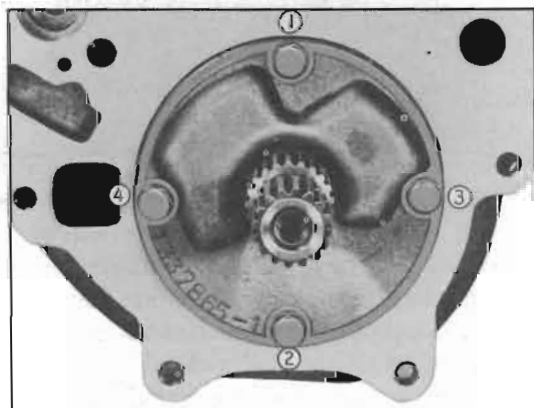

Figure 4-134—Rear Oil Pump Bolt Tightening Sequence
4. Install pump bolts with lockwashers, tighten evenly to 5 ft. lbs. torque in sequence shown in figure 4-134, then tighten in same sequence to 25-30 ft. lbs. torque.